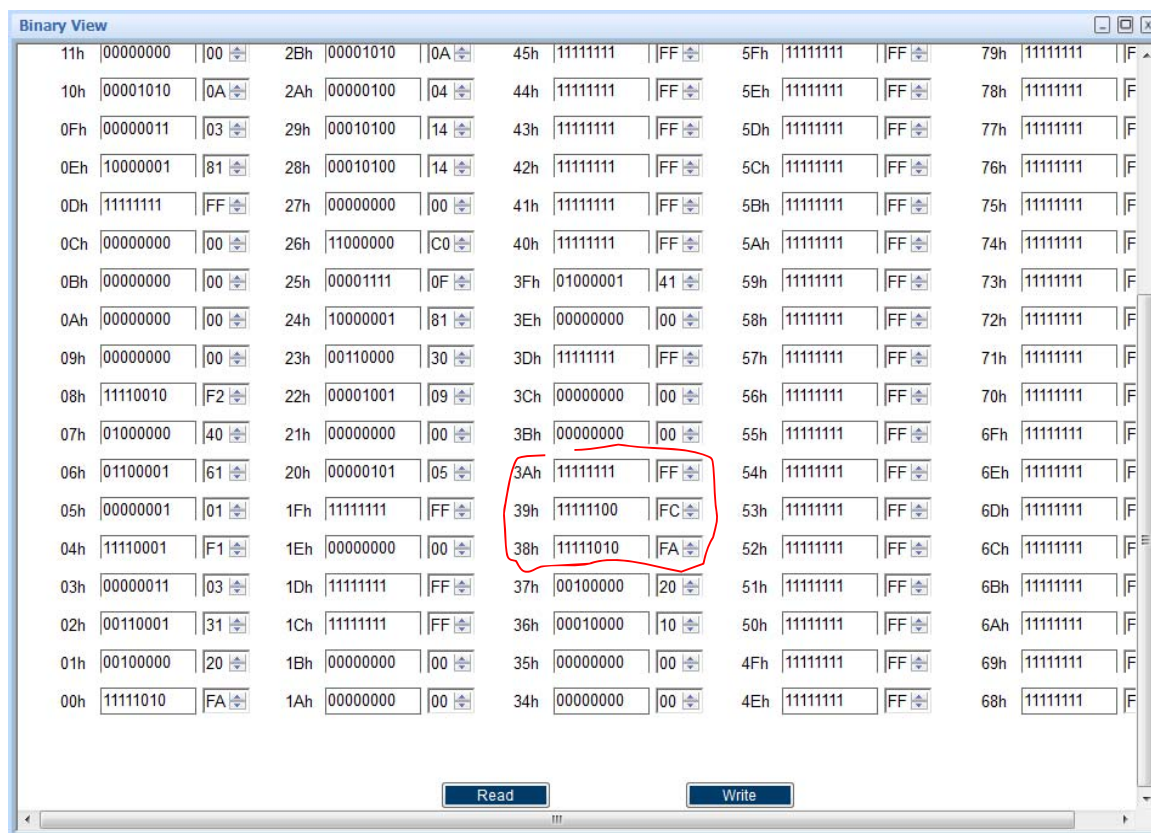

Figure 5 New values in offset image registers
- (2) First select Offset Target X/Y/Z as 0g/0g/+1g. Then from “Call trigger” dropdown list select “01 = x axis”. After clicking “Write” button, the value of -6 (or 0xFA) is shown in “Offset Filt X” edit box.
- (3) Repeat for Y and Z axis. The values of -4 (or 0xFC) and -1(or 0xFF) are shown in “Offset Filt Y” and “Offset Filt Z” edit box respectively.
- (4) Read the BMA253 data registers again. The new offset values in PCRs are as shown in Figure 5. They are the same as the values from manual compensation above.